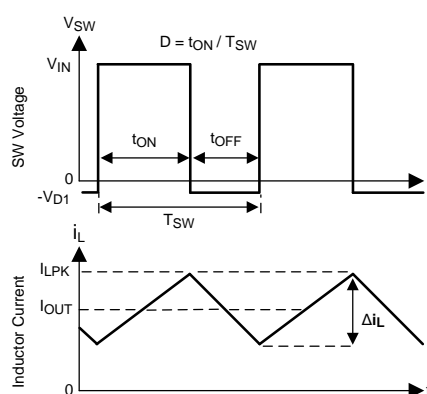

Figure 33. SW Node and Inductor Current Waveforms in Continuous Conduction Mode (CCM)
The following operating description of the LM46001 will refer to the Functional Block Diagram and to the waveforms in Figure 33. The LM46001 is a step-down Buck regulator with both high-side (HS) switch and low-side (LS) switch (synchronous rectifier) integrated. The LM46001 supplies a regulated output voltage by turning on the HS and LS NMOS switches with controlled ON time. During the HS switch ON time, the SW pin voltage V_{SW} swings up to approximately V_{IN} , and the inductor current I_L increases with a linear slope $(V_{IN} - V_{OUT}) / L$. When the HS switch is turned off by the control logic, the LS switch is turned on after a anti-shoot-through dead time. Inductor current discharges through the LS switch with a slope of $-V_{OUT} / L$. The control parameter of Buck converters are defined as Duty Cycle $D = t_{ON} / T_{SW}$, where t_{ON} is the HS switch ON time and T_{SW} is the switching period. The regulator control loop maintains a constant output voltage by adjusting the duty cycle D . In an ideal Buck converter, where losses are ignored, D is proportional to the output voltage and inversely proportional to the input voltage: $D = V_{OUT} / V_{IN}$.